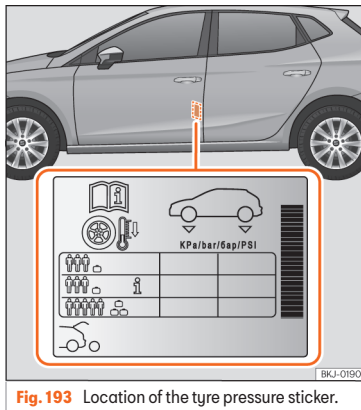

Fig. 193 Location of the tyre pressure sticker.
- Adjust tyre pressure to the load being carried by the vehicle »» Fig. 193.
The tyre inflation pressures are listed on a sticker on the rear of the front left door frame »» Fig. 193.
Depending on the vehicle, tyre pressure can be adjusted to medium load to improve driving comfort (tyre pressure **i** »» Fig. 193). When driving with comfort tyre pressure fuel consumption may increase slightly.
The tyre pressure must be adjusted according to the load the vehicle is carrying. If the vehicle is going to carry the maximum load, the tyre pressure should be increased to the maximum value indicated on the sticker »» Fig. 193.
pressure of 4.2 bar as indicated on the tyre pressure label » **Fig. 193.**
- The driver is responsible for ensuring that all of the vehicle tyres are correctly inflated to the right pressure. The recommended tyre pressure is indicated on the label » **Fig. 193.**
- When the tyres are cold, tyre pressure should be that indicated on the label » **Fig. 193.**